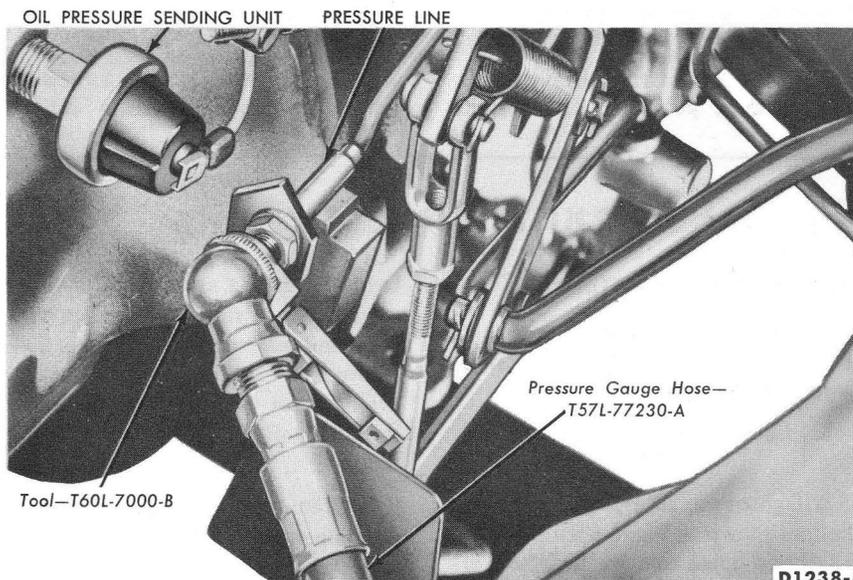

FIG. 3—Pressure Test
3. Remove the cap from the pressure line and install the tool shown in Fig. 3. Position the gauge so that it can be read from the driver's seat.